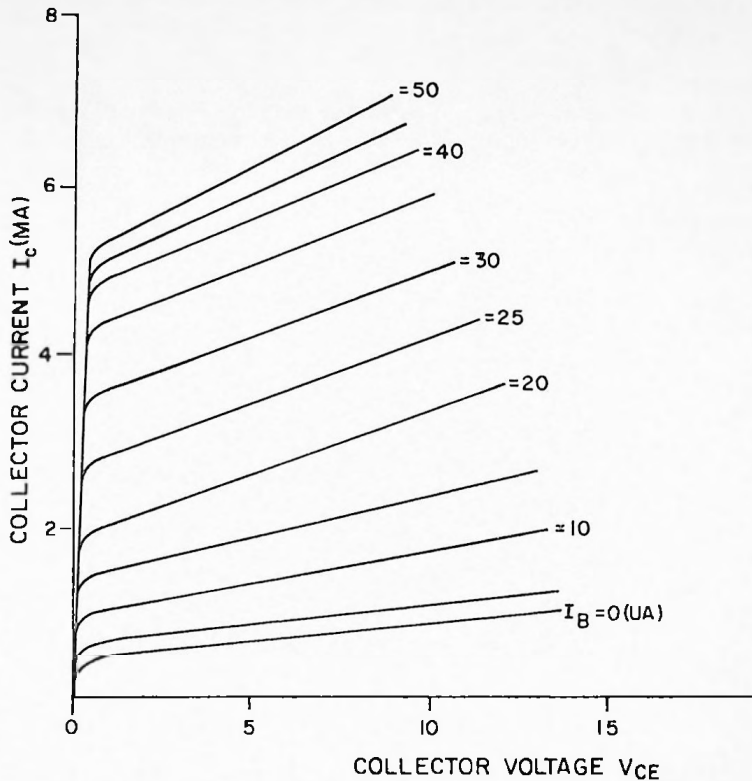

Figure 1. Output characteristic curves of CE amplifier.
27. Assume that the operating point of the common-emitter transistor circuit shown in A of figure 91 (TM 11-690) is 20 μ a, the peak-to-peak input current (I_B) is 10 μ a, the emitter-base resistance (r_i) is 500 ohms, and the load resistance (R_L) is 2,000 ohms. Using the characteristic curves shown in figure 1 and a collector-supply voltage of 12 volts, determine the approximate power gain of the circuit.